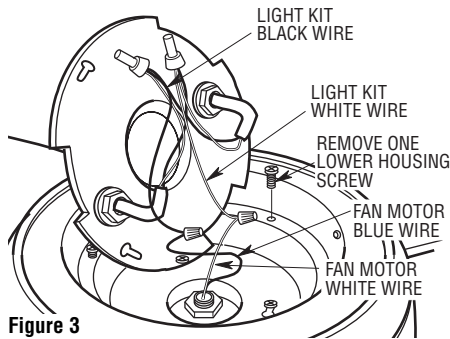

Figure 3
- 7. Connect the wire wire from the ceiling fan to the white wire of the light kit plate (Figure 3). Connect the blue wire from the ceiling fan to the black wire of the light kit plate. Use wire connectors (previously removed) to make connections.
- 8. Remove one of the three screws in the lower housing and loosen the remaining two screws (Figure 3).